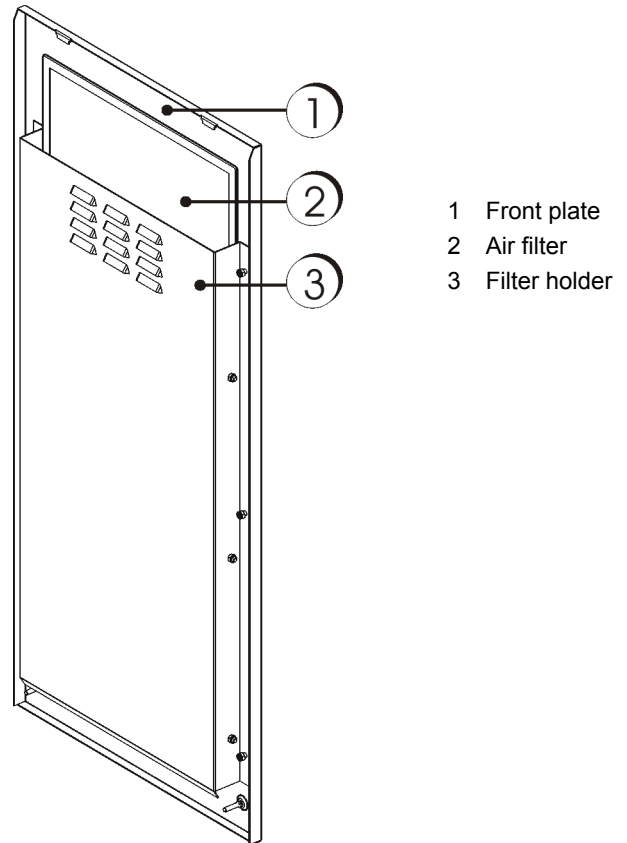

Figure 19: Air filter
- 1 Fix the enclosure of the Sunmaster XL to the floor. Determine the mounting spots on the basis of figure 19. Use suitable screws and dowels.